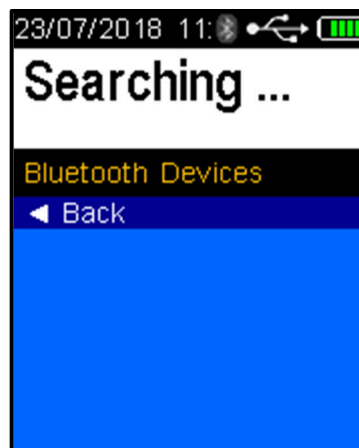

Figure 38 - Searching Displayed
- Place the HH4 device next to the Bluetooth printer and switch the printer on. Press the test key and the HH4 will search for the printer and display *Searching...* (Refer to Figure 38).